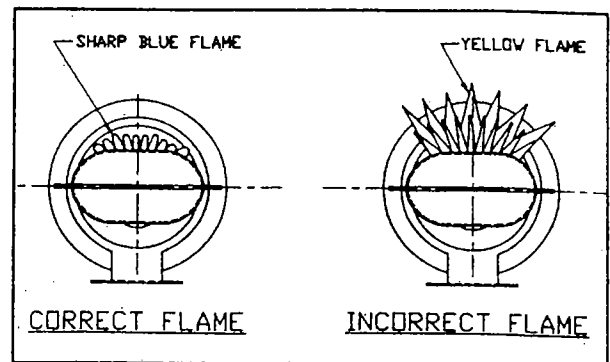

Figure 2
3. Periodically observe the main burner flame to assure it is burning with a hard blue flame with well defined burner ports (See Figure 2). If flame appears yellow or burner has a lazy flame, shut furnace down. It is possible that burner needs cleaning or replaced. If excessive rust and corrosion are present on burner surface, the burner must be thoroughly cleaned or replaced. The burner may be cleaned using a steel wire brush and blown clean using high compression air. Contact a qualified service person for assistance.